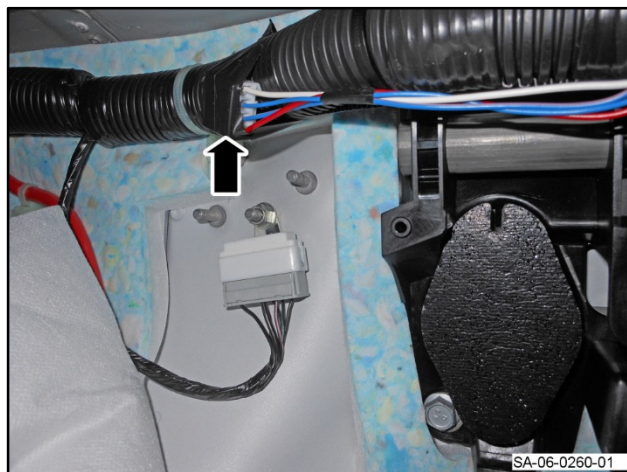

Figure 1
1. Remove the insulating tape that attaches the large white connector to the cabin harness (refer to Figure 1).